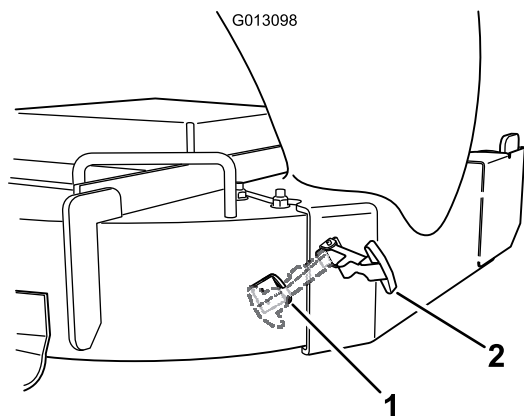

Figure 19
8. Hook the flexible latch on the chute to the retaining clasp welded to the side wall of the mower deck (Figure 19).